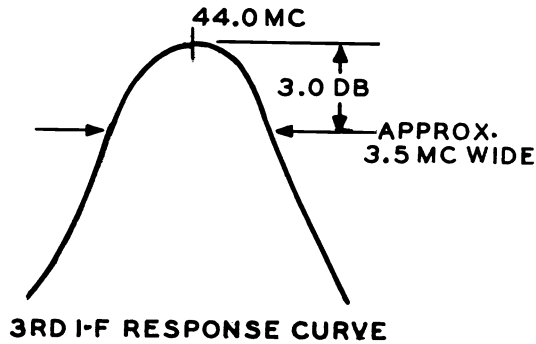

Fig. 3
4. Adjust bottom (primary) and top (secondary) of 3rd I-F transformer (T202) for maximum height and symmetry at 44.0 mc. See Figure 3.